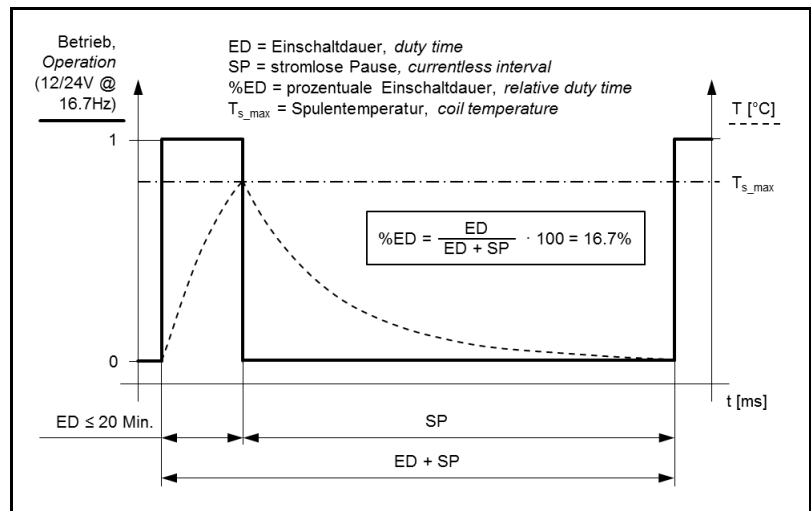

Fig. 8: Duty time in short-time operation
In order to prevent the permissible coil temperature (T_{s_max}) from being exceeded, the pump must not be operated for more than 20 minutes at 16.7 Hz. This must be followed by a currentless interval (SP) lasting 100 minutes. If operated for a shorter time at 16.7 Hz, the currentless interval is reduced proportionately. For short-time operation at 16.7 Hz, this results in a %ED of no more than 16.7 % (see Fig. 8: Duty time in short-time operation, page 15).